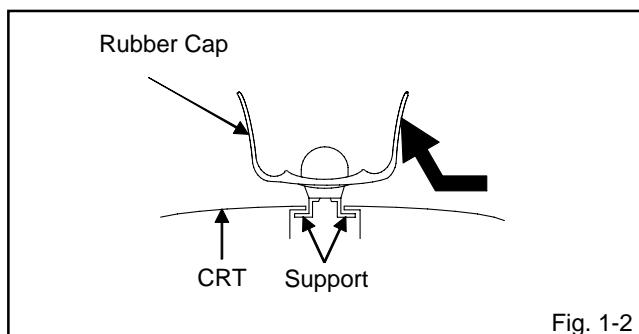

Fig. 1-2
2. Flip up the sides of the Rubber Cap in the direction of the arrow and remove one side of the support. (**Refer to Fig. 1-2.**)